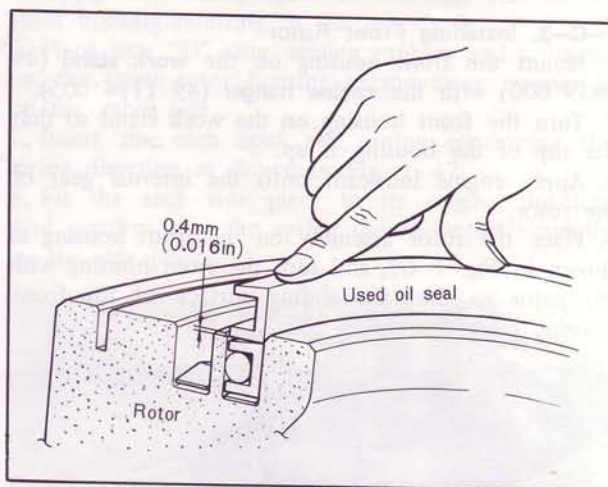

Fig. 1-60 Installing inner oil seal
- 2) Press the inner oil seal by using a used inner oil seal so that the lip surface of the inner oil seal sinks into a position approximately 0.4 mm (0.016 in) below the surface of the rotor as shown in Fig. 1-60.